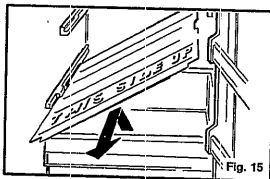

Fig. 15
3. Tilt the meat pan cover and take it out (Fig. 15).